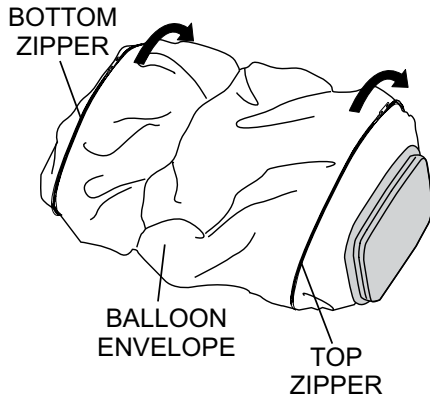

Figure 30. Unzipping the Balloon Envelope
1. Unzip the zipper (Figure 30) at the top and bottom of the balloon envelope (cover).